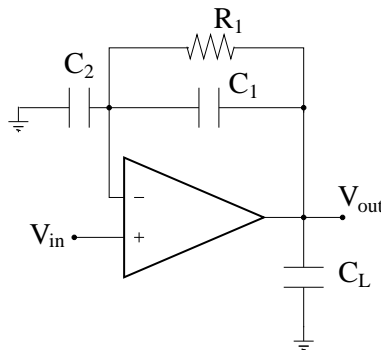

Figure 8: Non-inverting amplifier.
During this laboratory you will verify that a two-stage operational amplifier is correctly designed. The amplifier is used in the non-inverting configuration shown in fig.8. Capacitors C_1 and C_2 implement a capacitive feedback, typical of SC-circuits; R_1 is used in closed-loop simulations to provide a DC-feedback for the amplifier.
1. Give the equation for the gain $A(s)$ in a non-inverting feedback amplifier with capacitive feedback (see fig.8), and show that $A(s) = 2$ for $C_1 = C_2$.